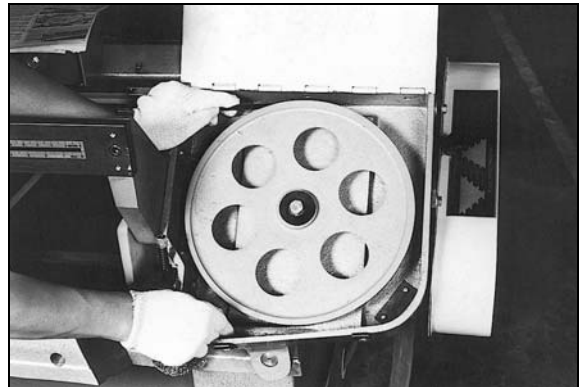

Fig. 3
10. Put light tension on the blade and work it on both wheels, as shown in Fig.3. Make sure that the back of the blade is against the wheel flanges of both wheels. This is very important.